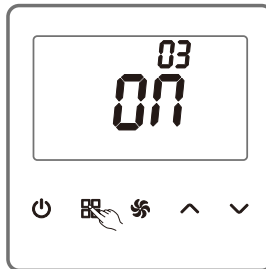

Figure 9
As shown in the Figure 9, on the parameter setting page, press  (MODE) to switch the option number to 03.  (UP) or  (DOWN) is provided to allow a switch between ON and OFF.